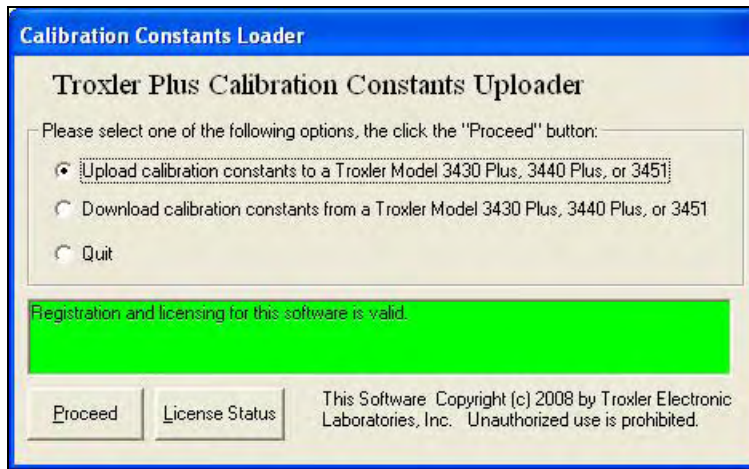

Figure 5. PlusLoader Main Menu
**The status of your registration can be viewed at any time by clicking the **<License Status>** button on the PlusLoader main menu (see Figure 5 on page 8).**
- 3.3 The *PlusLoader* main menu (see Figure 5) is displayed. Select the **Upload Calibration constants to a Troxler Model 3430 Plus, 3440 Plus, or 3451** option button, then click **(Proceed)**.
- 3.12 A message box informing the user that the calibration constants have been successfully passed to the gauge is displayed. Click **<OK>** on this message box. The program returns to the PlusLoader main menu (see Figure 5).
- 4.2 From the PlusLoader main menu (see Figure 5 on page 8), select the **Download calibration constants from a Troxler Model 3430 Plus, 3440 Plus, or 3451** option button, then click **<Proceed>**.